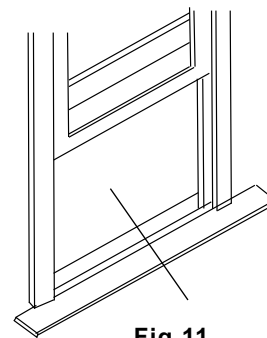

Fig.11
1. Open window and mark center of window stool as shown (Fig.11).